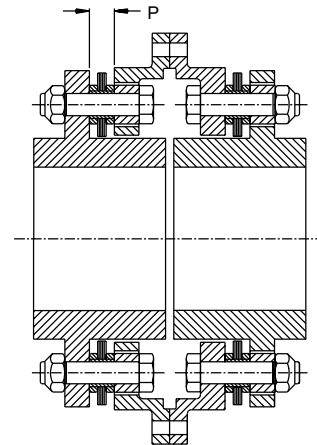

Figure 5. Axial Alignment Measurements
4.1 Measure the thickness of the disc pack before bringing the equipment together. (See Figure 5 dimension P). The axial separation is set after the adapters and disc packs are bolted to the hubs. Bring the driving and driven equipment together until the flanges of the adapters touch. Measure the gap between the disc pack flanges and adjust the axial separation of the equipment until this measurement equals the thickness of the disc pack.